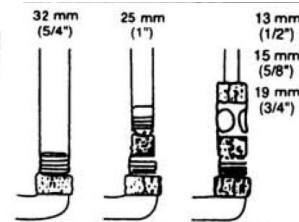

Fig. 2
2. Wedge the discharge hose on to the connection section corresponding to the internal diameter of the hose (Fig.2).